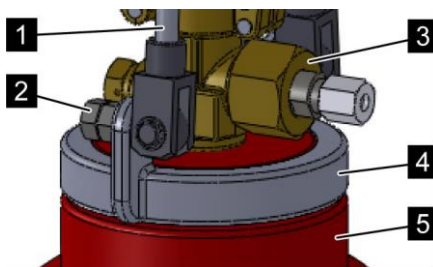

Fig. 148: Suspension
8. ➔ Unscrew the hex nuts (Fig. 148/2) on the suspension of the pilot cylinder.
⇒ The holding rods (Fig. 148/1) are detached.
10. ➔ Unscrew the adapter (Fig. 148/3).
11. ➔ Unscrew the suspension element (Fig. 148/4) from the pilot cylinder (Fig. 148/5).
12. ➔ Screw suspension element (Fig. 148/4) onto a new pilot cylinder.
13. ➔ Fasten the holding rods (Fig. 148/1) with eye bolts and hex nuts (Fig. 148/2) on the suspension element (Fig. 148/4).